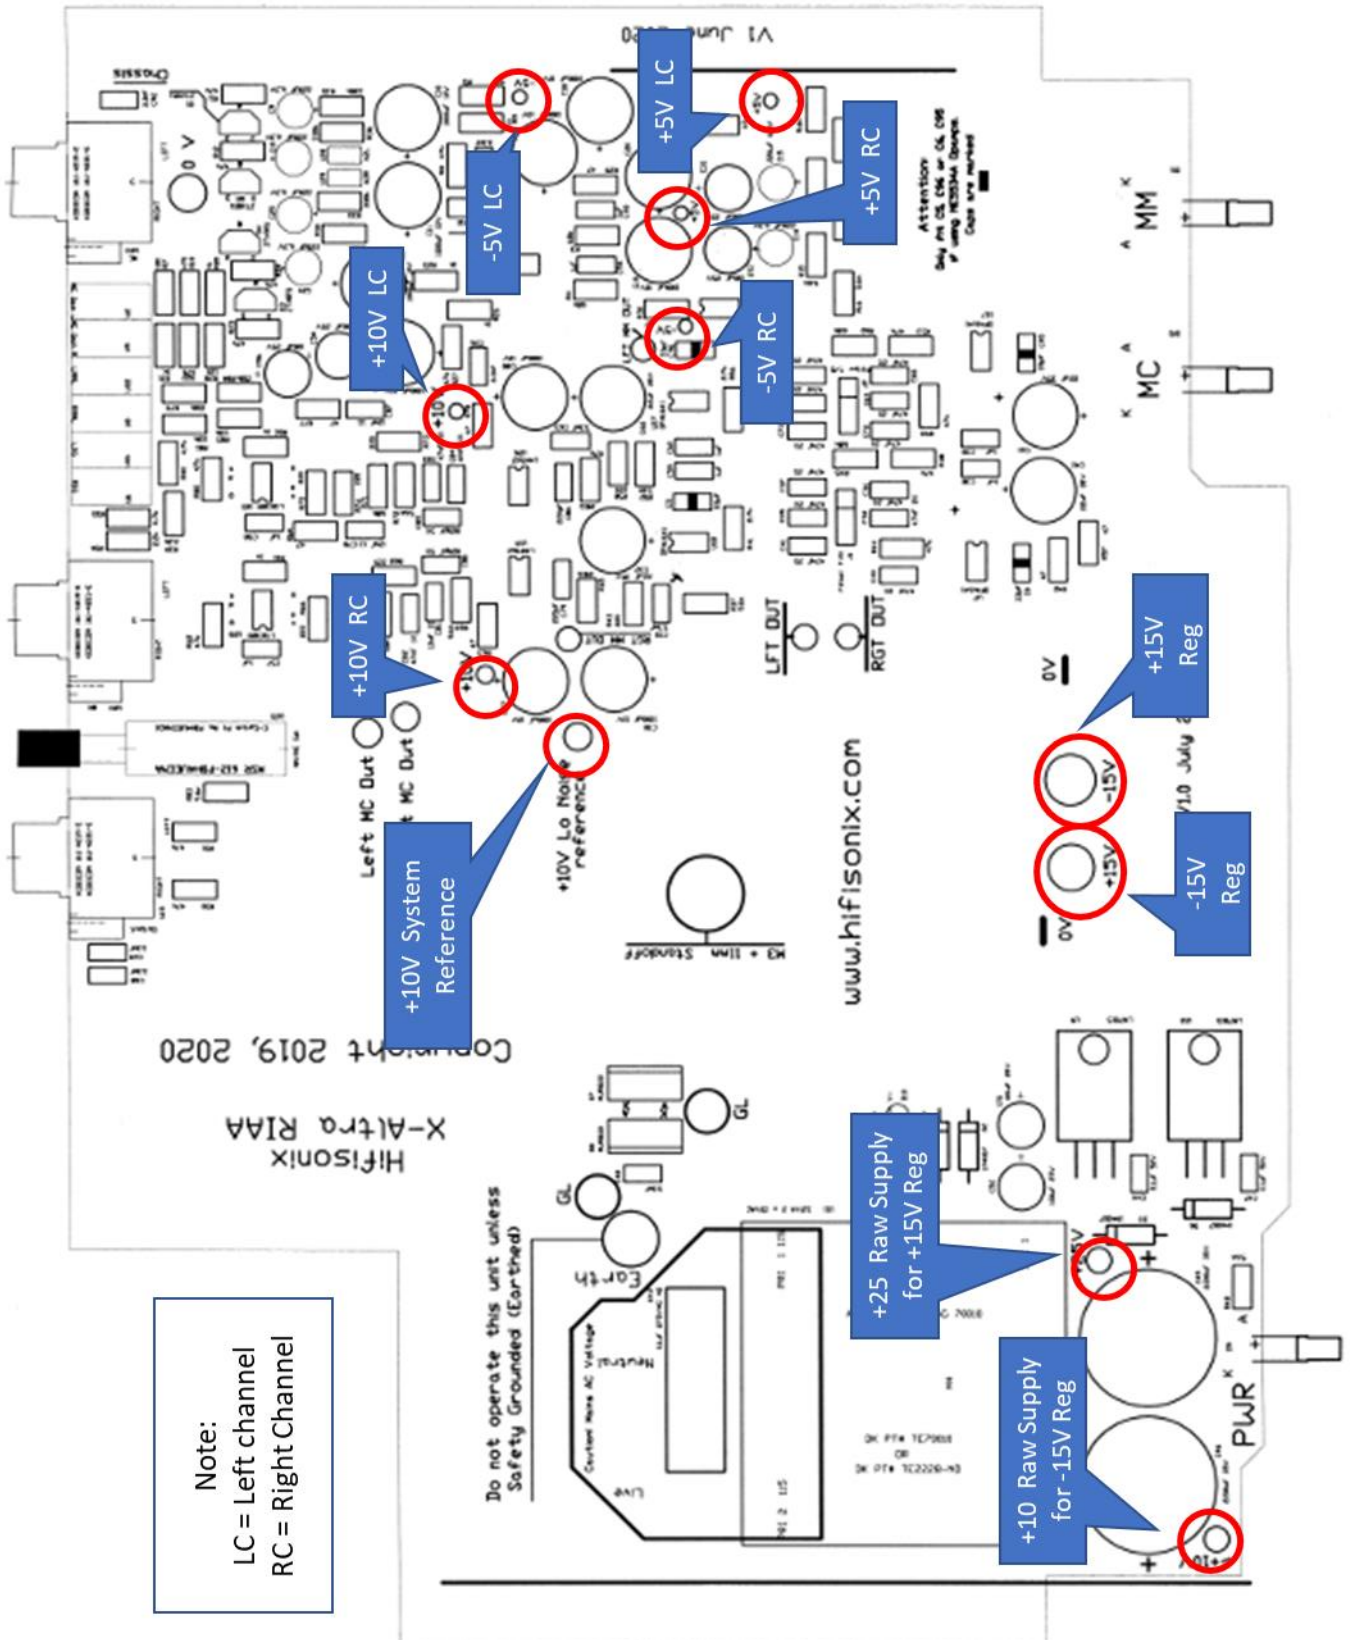

Figure 1 - General Layout Showing Location of Test Points
12. Refer to Fig. 1 of this document for the location of the test voltages. Use the meter to check that the +-15V supply is within +-200mV